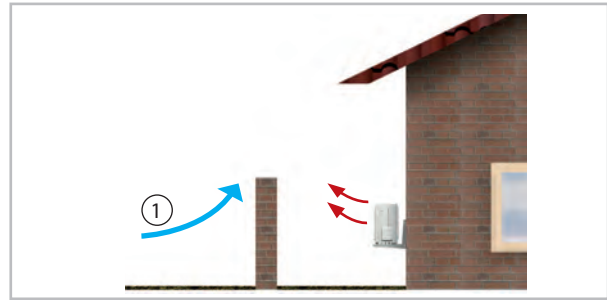
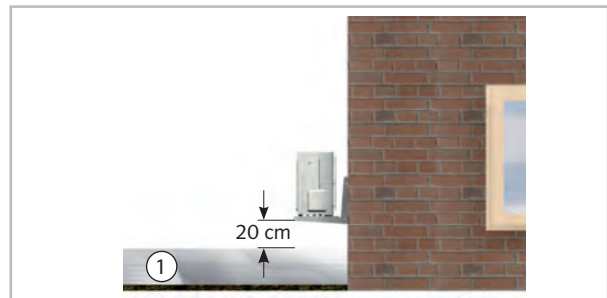

Fig. 68: Protection against wind
Fig. 69: Protection against snow
- If the outdoor unit is erected in an area of strong winds, then the unit must be protected against them and additional stabilisation is recommended. This can be realised for example with wire ropes or other constructions (Fig. 68). The snow line is to be observed during installation (Fig. 69).
- During installation, add about 20 cm to the expected snow depth to guarantee unimpeded intake and exhaust of outdoor air year round (Fig. 69).